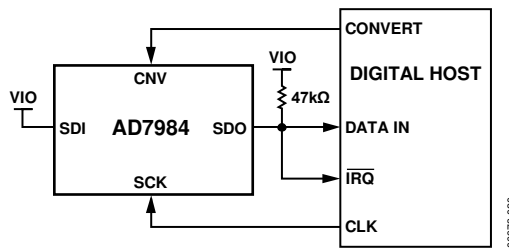
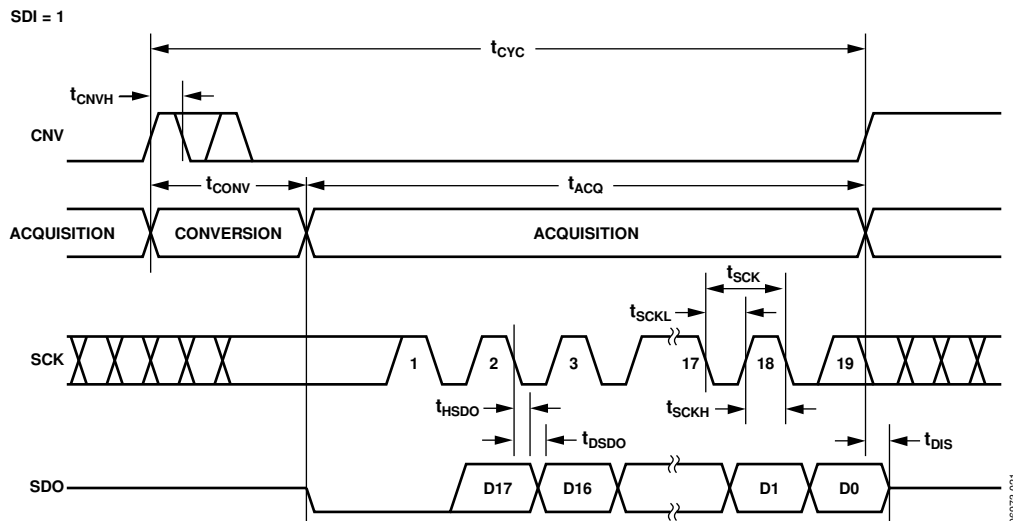
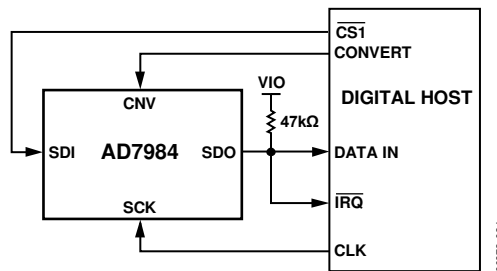
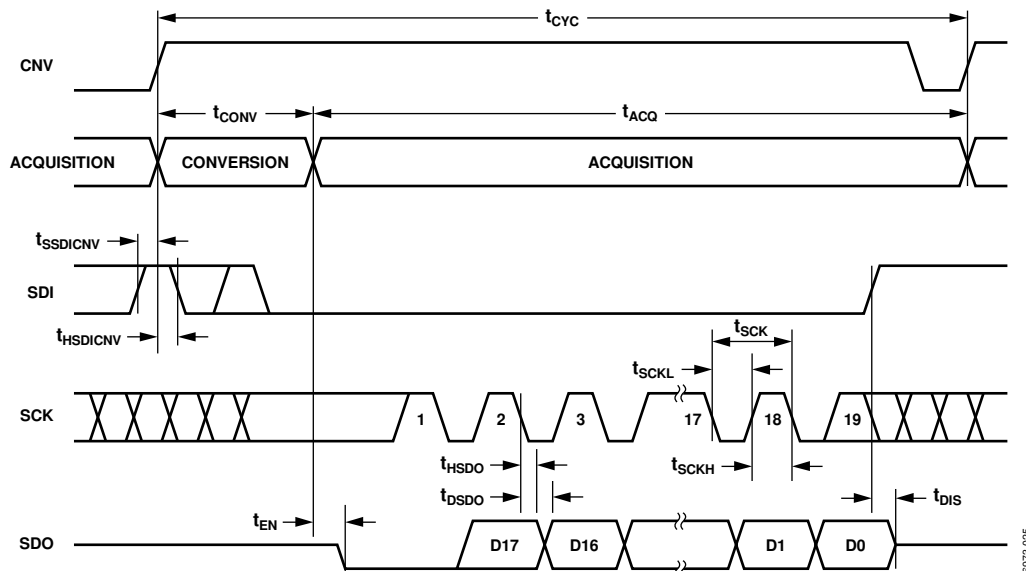

Figure 29. $\overline{\text{CS}}$ Mode, 3-Wire with Busy Indicator Connection Diagram (SDI High)
Figure 30. $\overline{\text{CS}}$ Mode, 3-Wire with Busy Indicator Serial Interface Timing (SDI High)
Figure 33. \overline{CS} Mode, 4-Wire with Busy Indicator Connection Diagram
Figure 34. \overline{CS} Mode, 4-Wire with Busy Indicator Serial Interface Timing
- In $\overline{\text{CS}}$ mode if CNV or SDI is low when the ADC conversion ends (see Figure 30 and Figure 34).
The connection diagram is shown in Figure 29, and the corresponding timing is given in Figure 30.
The connection diagram is shown in Figure 33, and the corresponding timing is given in Figure 34.